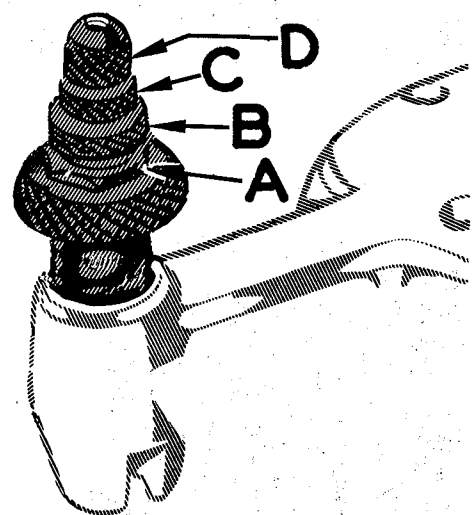

Fig. 2
Sufficient pressure to feed work uniformly should be maintained. Should it be necessary to increase or decrease amount of pressure on presser foot, loosen lock nut (A, Fig. 2) and turn adjusting screw (B). Adjusting screw has a right hand thread, so tightening increases pressure, loosening decreases pressure. When pressure adjusting screw (B) has been properly set, tighten lock nut (A). With presser foot resting on throat plate, position locking nut (C) so that its under surface is approximately  $1/32$  inch to  $1/16$  inch from the top surface of adjusting screw (B). Set cap (D) against locking nut (C).